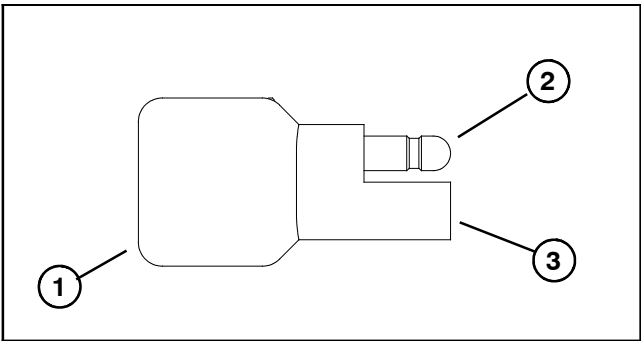

Figure 14
- 2. Later production machines use diodes that plug into the wiring harness (Fig. 14). Location of the diodes is under the control console.
- 2. Plug-in style diodes (Fig. 14):